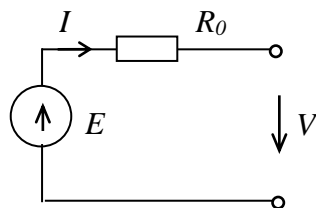
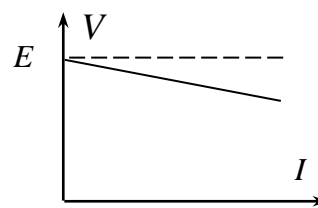
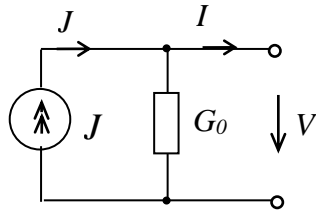
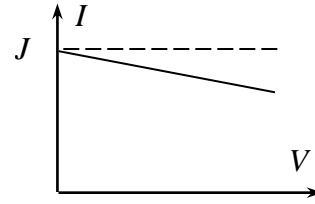

Fig.1.4
Fig.1.5
Fig.1.6
Fig.1.7
We can represent real electrical circuit by two substitution schemes: serial (fig. 1.4) and parallel (fig. 1.6). The external volt-ampere characteristic (fig.1.5) $V(I)$ is the main characteristic of the source. Its analytical expression is $V = E - R_0 I$. At fig.1.5 solid line indicates the characteristic of real source, dashed line - the characteristic of ideal source. Boundary points of this characteristic correspond to the source boundary modes – open circuit (idle) mode (without loading), when $I = 0$, $V = E = V_{oc}$ and short circuit mode, when $V = 0$, $I = I_{sc}$. The
external characteristic of ideal source $V = E$ is represented by dashed line at fig. 1.5.
Parallel substitution scheme (fig.1.6) consists of ideal current source J and internal conductivity G_0 , which characterizes the losses. The external characteristic of real source (fig.1.7) is described by the equation $I = J - G_0 U$. The external characteristic of ideal source $I = J$ is represented by dashed line at fig. 1.7.
- voltage generator, when the voltage at the clamps of the source practically does not depend on the current, thus $V \approx E$, and this mode is close to o.c. In this mode $R_0 I \ll RI$ (fig.1.4), that's why the condition of it is $R_0 \ll R$ and $\eta \approx 1$. This is the main operating mode of electrical engineering devices.
- current generator, when the current at the clamps of the source practically does not depend on the voltage, thus $I \approx J$, and this mode is close to to s.c. In this mode $G_0 U \ll GU$ (fig.1.6), that's why the condition of it is $G_0 \ll G$ ($R_0 \gg R$).